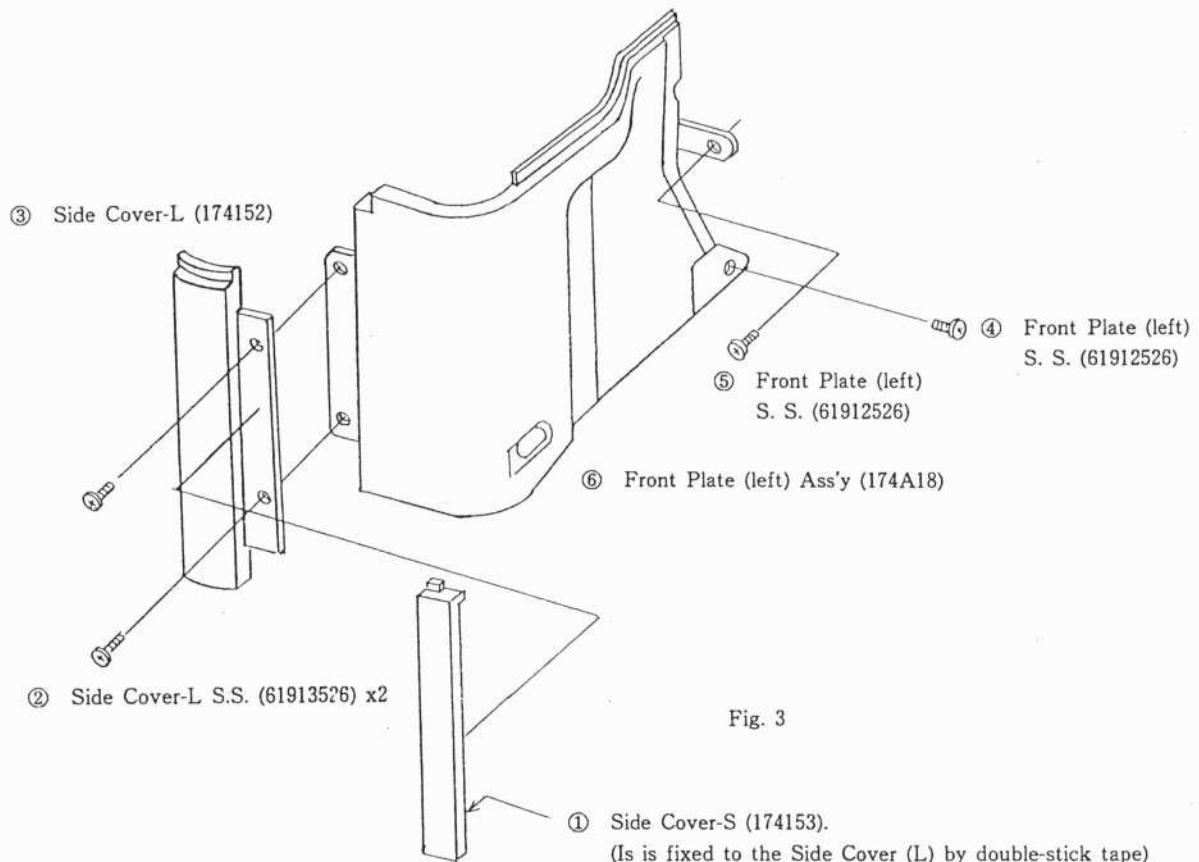

Fig. 3
- 1) Remove the respective parts ①~⑥ shown in (Fig. 3 ) in numerical order.